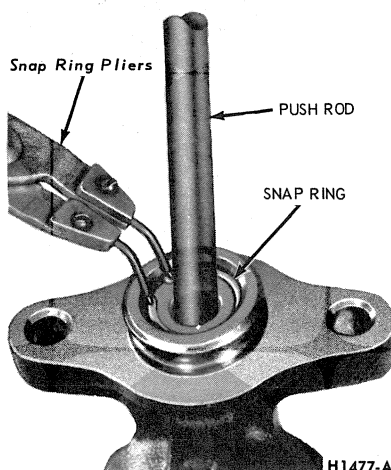

FIG. 18—Removing Snap Ring—Typical
4. Remove the snap ring retaining the primary and secondary piston assemblies within the cylinder body (Fig. 18). Remove the push rod, stop plate and push rod retainer from the master cylinder. Remove the push rod retainer, stop plate and boot from the push rod.